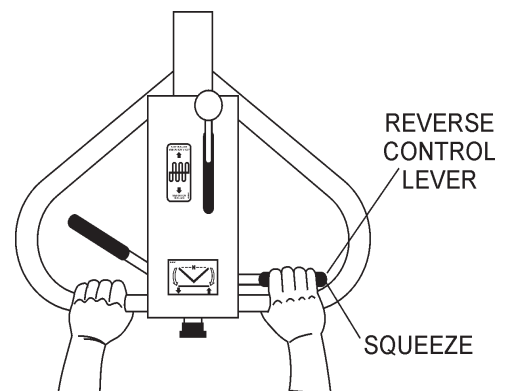

Figure 29. Reverse Control Lever
2. Squeezing the **right** control lever (Figure 29) will cause the roller to move in a **reverse direction**. Use a smooth squeezing action on the drive control lever to prevent abrupt take-offs.